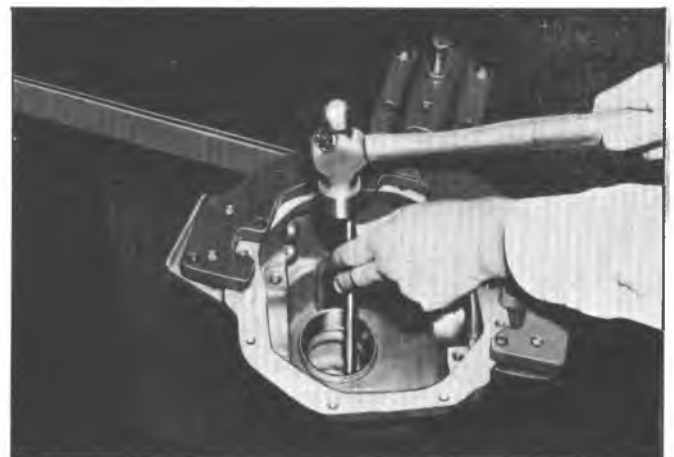

Fig. 16C—Removing Pinion Bearing Cup
1. If necessary to replace pinion bearings, tap old cups out of carrier using a brass drift. See Figure 16C. Tap alternately on opposite sides of cup to prevent cups from cocking in carrier. Inspect cup seats and bore for any nicks or burrs and remove as necessary before installing new bearing cups.